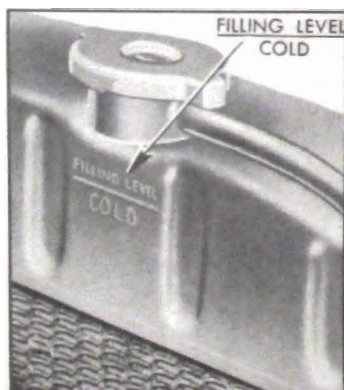

Figure 1-8—Radiator Filling Level
13. *Radiator.* Check coolant level when engine is cold and add water to line marked "Filling Level-Cold" stamped approximately $1\frac{1}{4}$ " below top of head tank. See figure 1-8. **CAUTION:** *Radiator cap should not be removed when engine is hot because relieving the pressure may cause the cooling system to boil, with resultant loss of water or anti-freeze solution. Filling radiator when hot, or filling above level line may result in loss of water or anti-freeze solution through overflow pipe.*